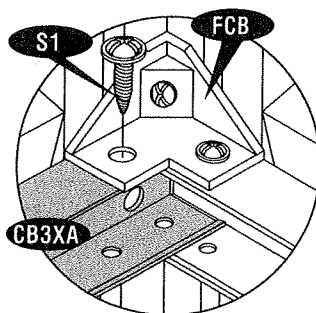

Fig.1
16. Stabilize the side panels with center bands (**CB3XA**) assembly. See fig.1 to 6 and follow the steps.